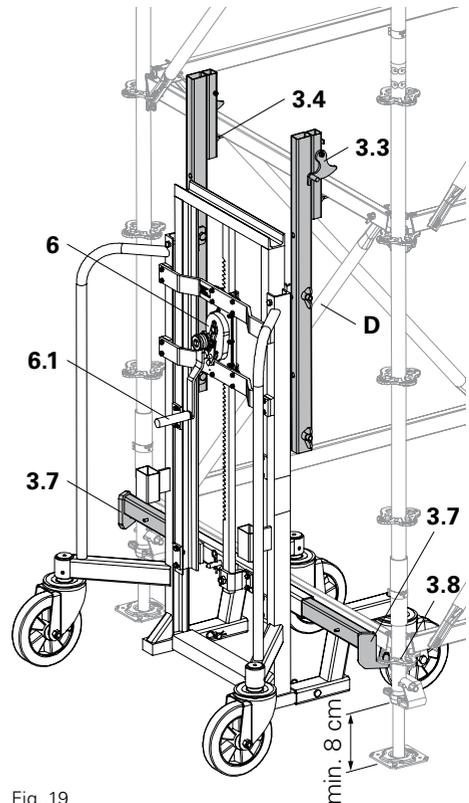

Fig. 19
3. Raise the load by turning the hand crank (6.1) in a clockwise direction. The safety pawls (3.3) are automatically pushed upwards at the rear, fall in a forward direction and thus secure the Ledger against lifting. (Fig. 19)
Min. 8 cm. (Fig. 19)